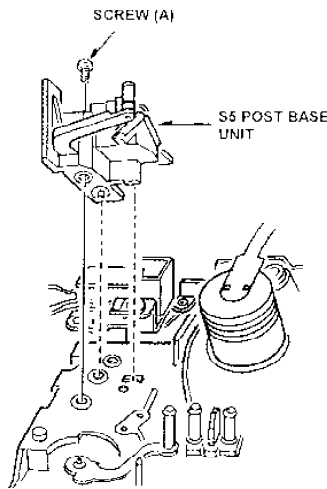

Fig.6-12-1 Removal of S5 Post Base Unit
3. Unscrew the screw (A) and remove the S5 Post Base Unit as shown in Figure 6-12-1.
1. Install the S5 post Base Unit follow the removal steps in reverse order, then be careful the S5 Post Base Unit is install to mech chassis as shown in Figure 6-12-1.
2. After installation, Post Height pre-adjustment (Refer to item 5-4) and Linearity adjustment (Refer to item 5-12 \[Tape Pass